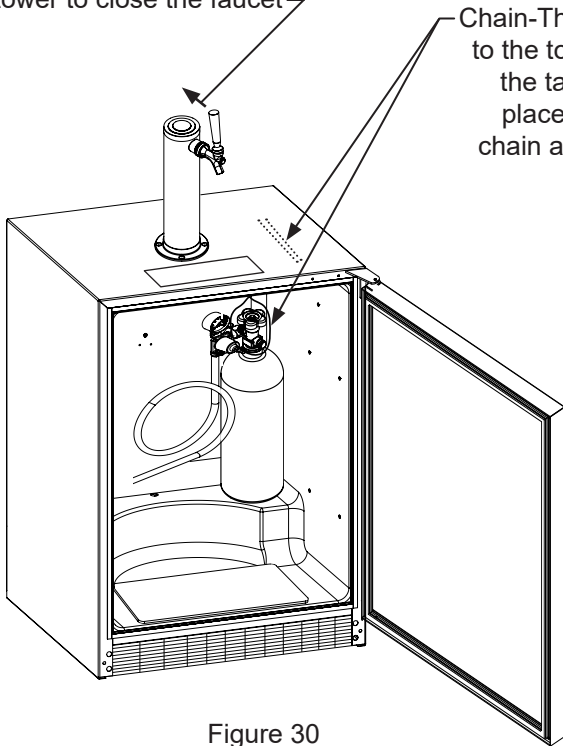

Figure 30
- Locate the gas tank in the corner of the refrigerator as shown in Figure 30 and secure with the chain. Close
2. Be sure the faucet handle is closed on the tower (see Figure 30).